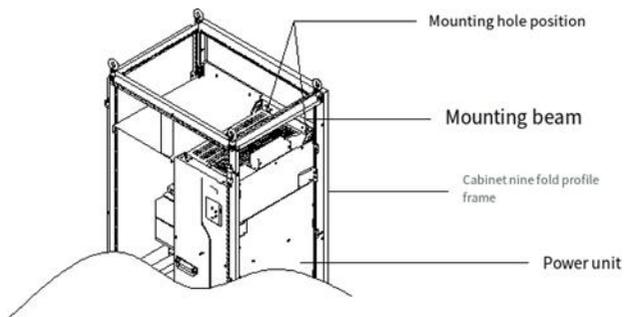

Figure 4-7 3D view of FD500 55 to 500kW models in cabinet
- b. When FD500 55~500kW models are loaded into the cabinet with nine-fold profile 600mm deep, the mounting beam must be bent inwards (as shown in the Figure 4-7), making use of the space of the